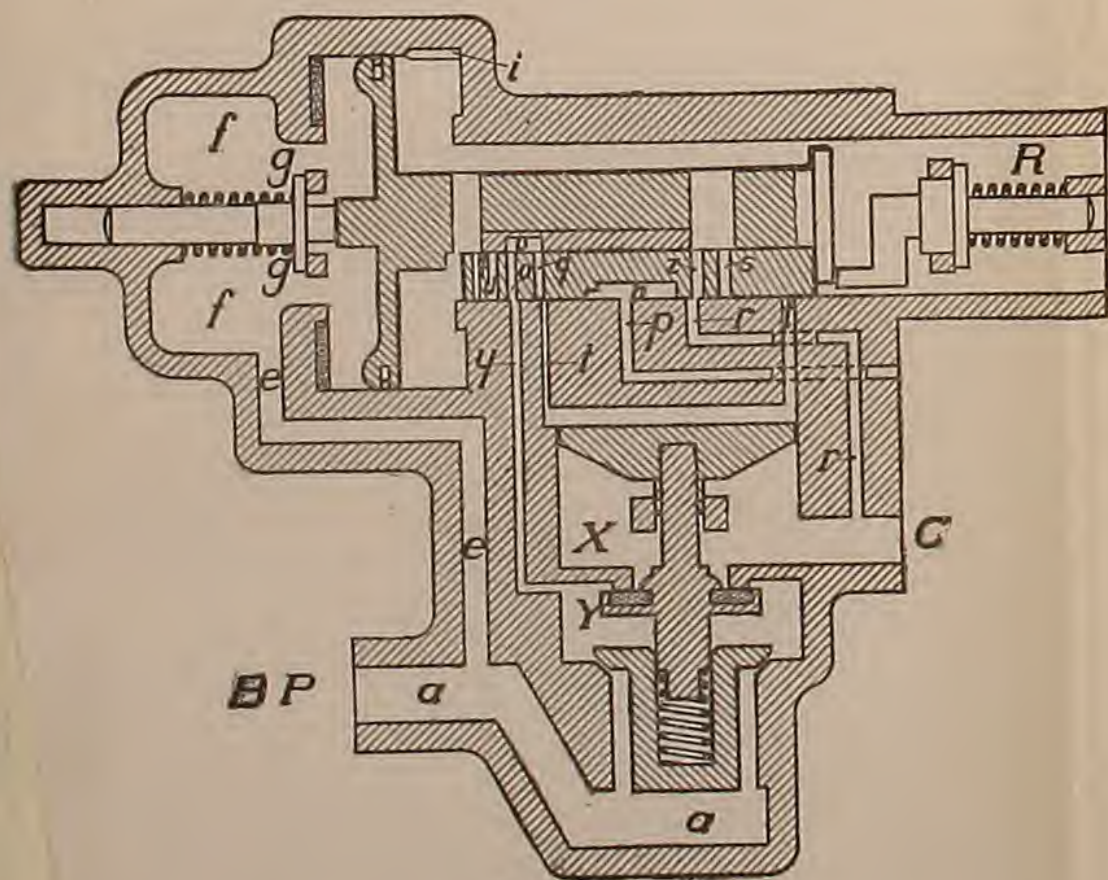
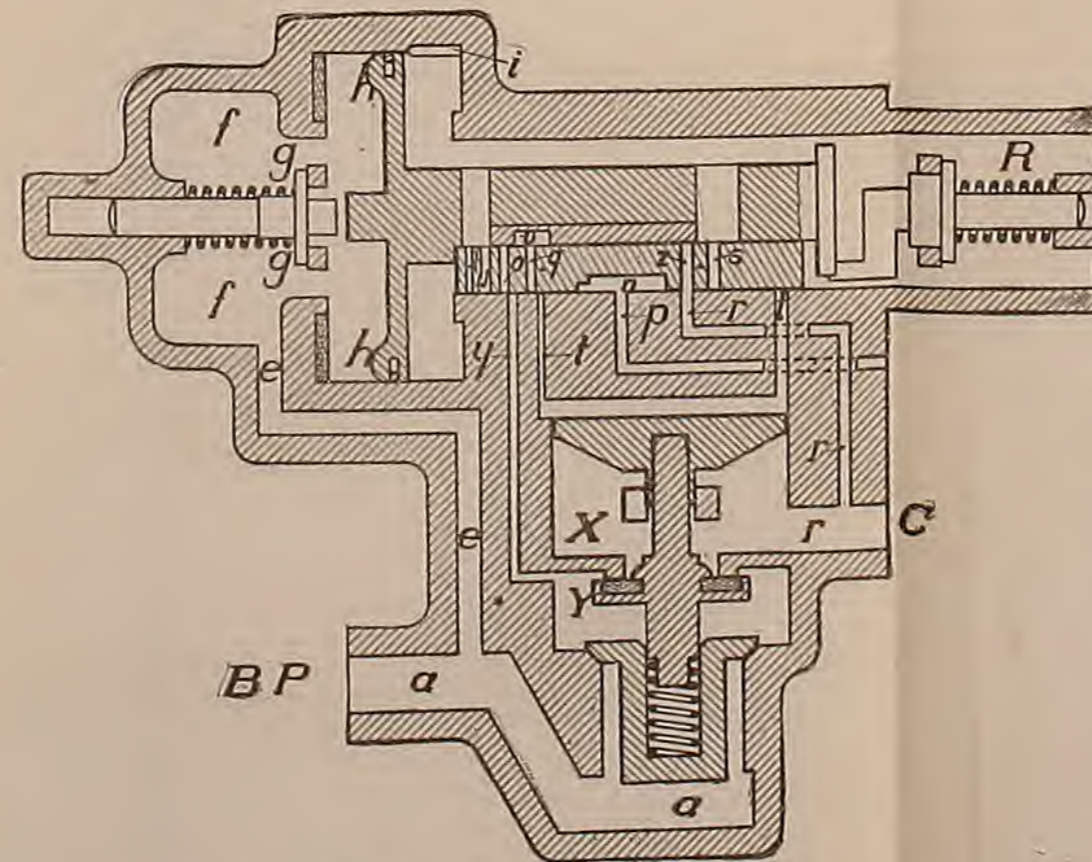

Fig. 125.
Fig. 126.
Q. What is shown in Fig. 125?
Q. What does Fig. 126 represent?
A. When the pressure in the auxiliary falls slightly below that remaining in the brake pipe. As shown in this figure the triple piston has moved the graduating valve back far enough to close ports *o*, *q*, and *z*, and thus prevent further flow of air from both the auxiliary and the brake pipe to the brake cylinder. It will be noted in the figure that the main slide valve is ahead of its position shown in Fig. 125. The valve would only assume this position if the brake pipe pressure were reduced faster than the auxiliary reservoir pressure could reduce to the brake cylinder, otherwise port *o* would remain in register with port *y* as in Fig. 125, but the graduating valve would have closed ports *o* and *z* as shown in Fig. 126.